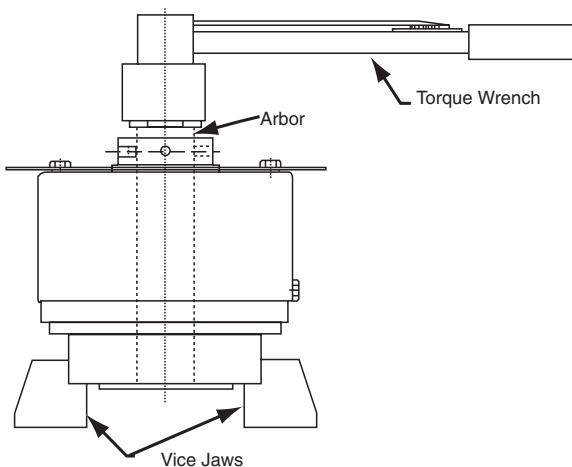

**Figure 10**
C. The amount of adjustment required (spring deflection) can be estimated by counting the turns of the bearing nut or can be measured as shown in Figure 10.